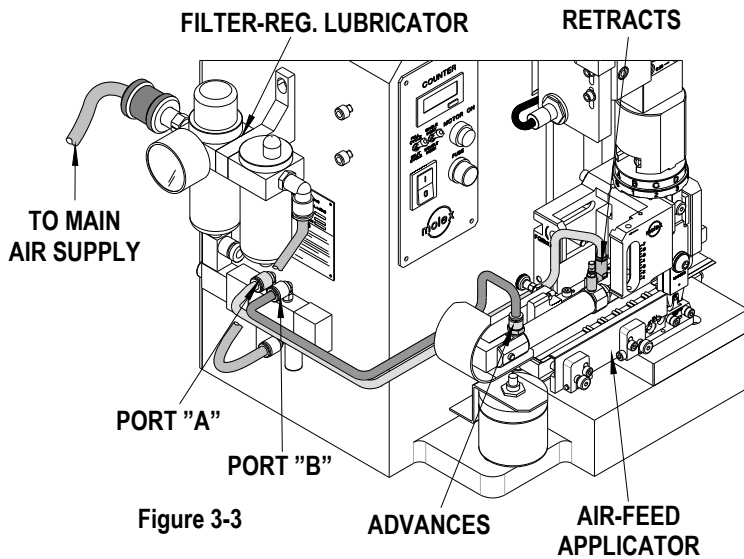

Figure 3-3
10. Insert the “A” port of the air valve with the tube that retracts the feed mechanism of the applicator. See Figure 3-3.
11. Insert the “B” port of the air valve with the tube that advances the feed mechanism of the applicator. See Figure 3-3.